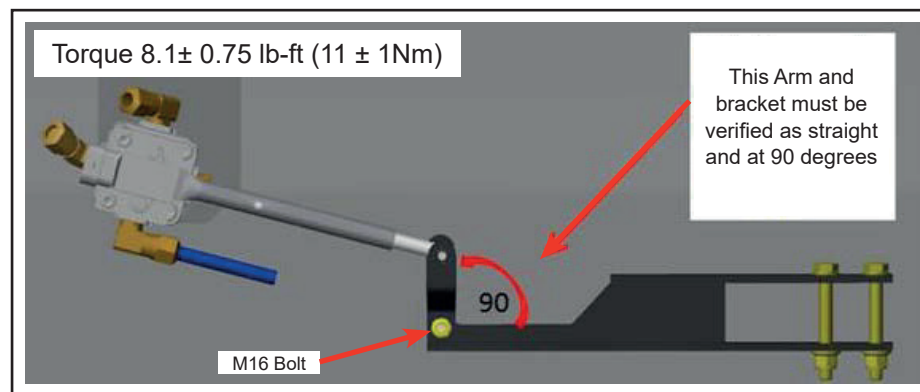

Figure 13 - Angle between the Arm and Bracket
- 1.26. Confirm that the arm and bracket on the front leveling valve is 90deg and straight. If the arm and bracket are not 90deg and straight (See Figure 13).